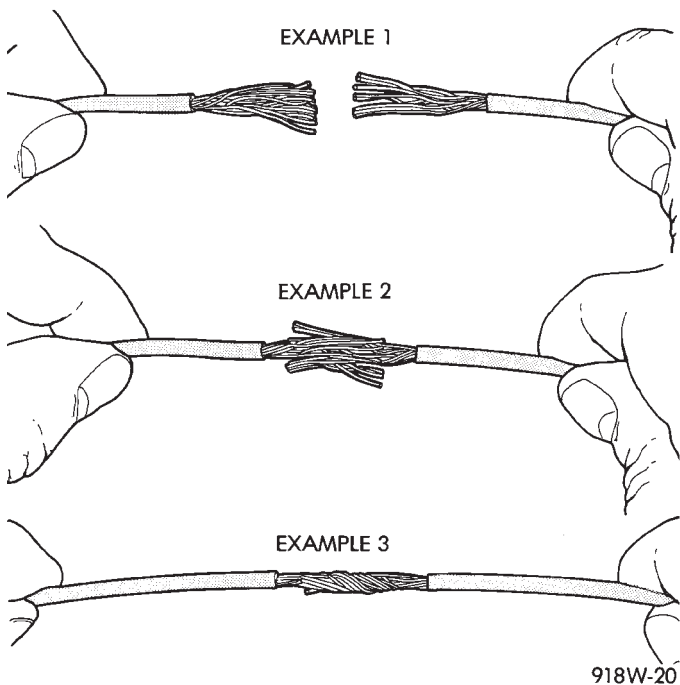

Fig. 9 Wire Repair
- (1) Disconnect battery negative cable
- (2) Remove 1 inch of insulation from each end of the wire.
- (3) Place a piece of heat shrink tubing over one side of the wire. Make sure the tubing will be long enough to cover and seal the entire repair area.
- (4) Spread the strands of the wire apart on each part of the exposed wire (example 1). (Fig. 9)
- (5) Push the two ends of wire together until the strands of wire are close to the insulation (example 2) (Fig. 9)
- (6) Twist the wires together (example 3) (Fig. 9)
- (7) Solder the connection together using rosin core type solder only. **Do not use acid core solder.**
- (8) Center the heat shrink tubing over the joint, and heat using a heat gun. Heat the joint until the tubing is tightly sealed and sealant comes out of both ends of the tubing.
- (9) Secure the wire to the existing ones to prevent chafing or damage to the insulation
- (10) Connect battery and test all affected systems.